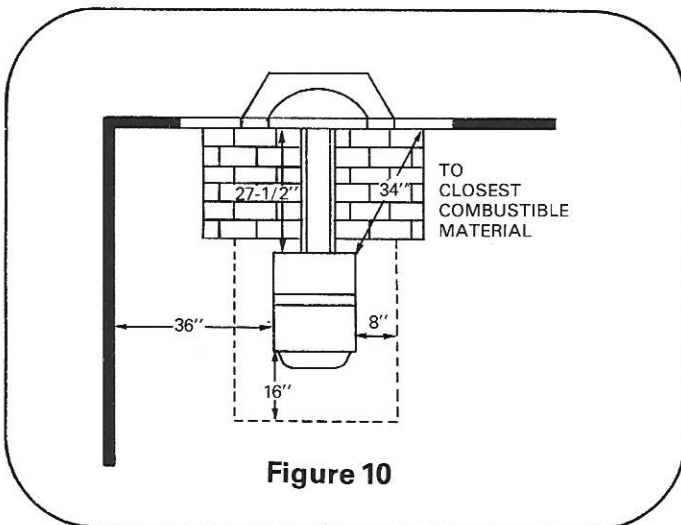

Figure 10
7. Position floor protector in front of fireplace hearth according to clearance to combustible chart. (See Figure 10.)